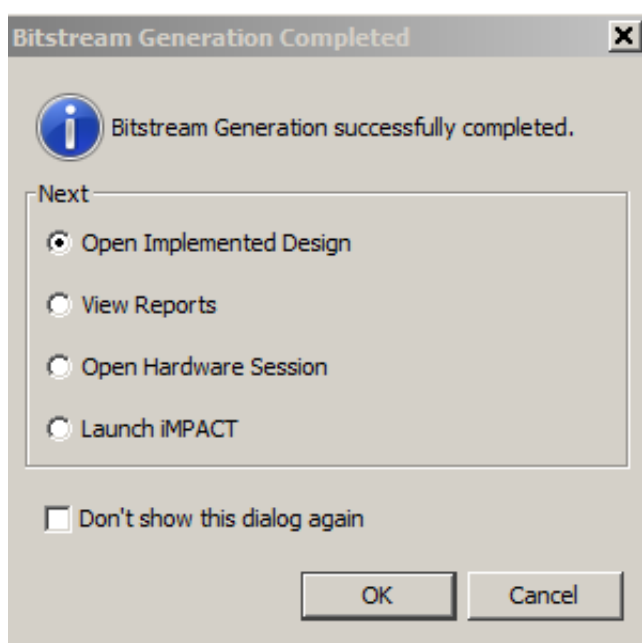

Figure 6: **Bitstream Generation Completed**
8. When the **Bitstream Generation Completed** opens, click **Cancel** to return to the Vivado GUI (Figure 6).